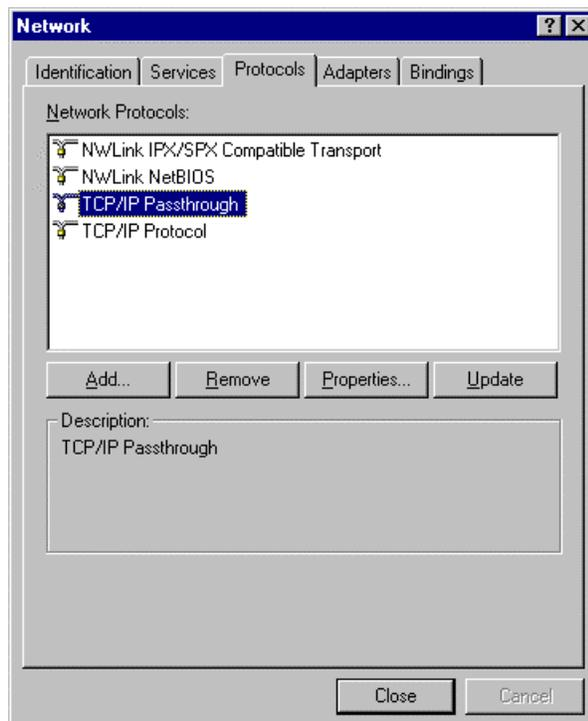

Figure 15-15. TCP/IP Passthrough Protocol
1. From the Network ICON in the Windows NT Control Panel, verify that TCP/IP Passthrough is installed as a protocol (Figure 15-15).